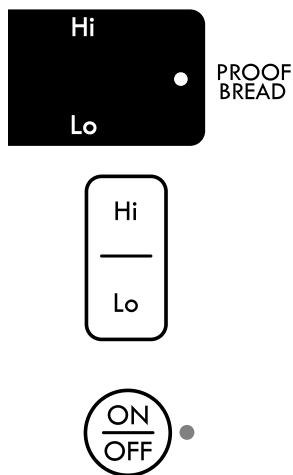

Fig. 2
4. Press **Lo** keypad again to activate **Proof Bread** feature. The Proof Bread indicator light will glow when the Proof Bread feature is active (See Fig. 2).